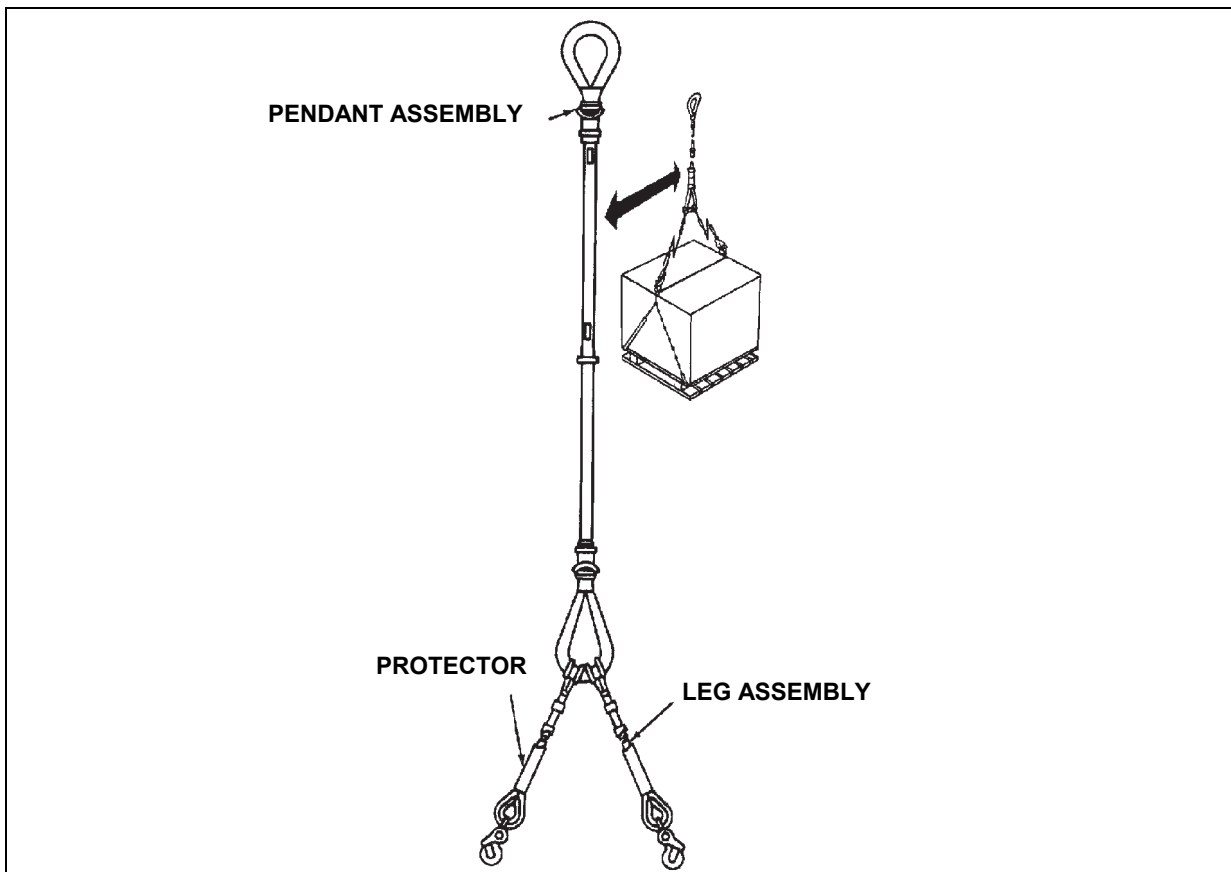

Figure 9-6. Hoisting Sling Mk 128 Mod 0
- **Hoisting Sling Mk128 Mod 0.** This sling consists of two parts: the pendant and the legs (two per unit). The pendant has a spliced eye at each end and a stiffening tube to allow for extended hookup (figure 9-6). One eye attaches to the cargo hook. The other eye is for attachment of the leg assembly. The legs, color-coded green, have a spliced eye at one end and a hook at the other end. The legs are fastened to the eye of the pendant with a choker hitch. The entire assembly with one or more legs is rated at 4,000 pounds.